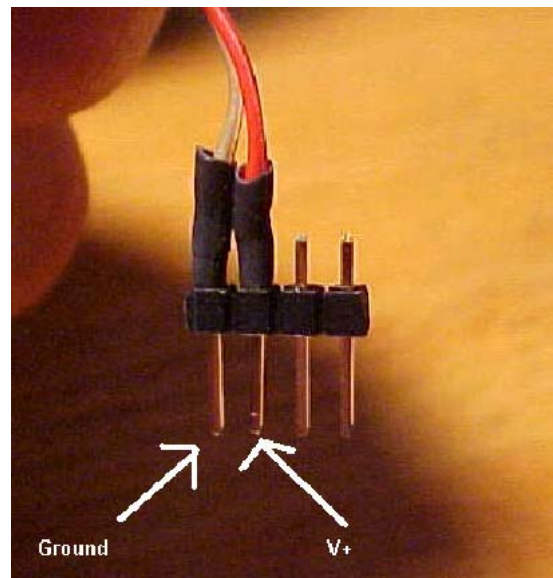
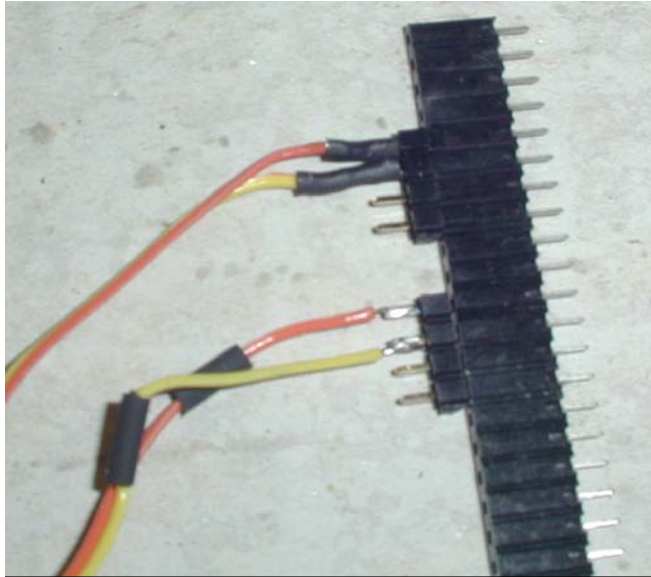
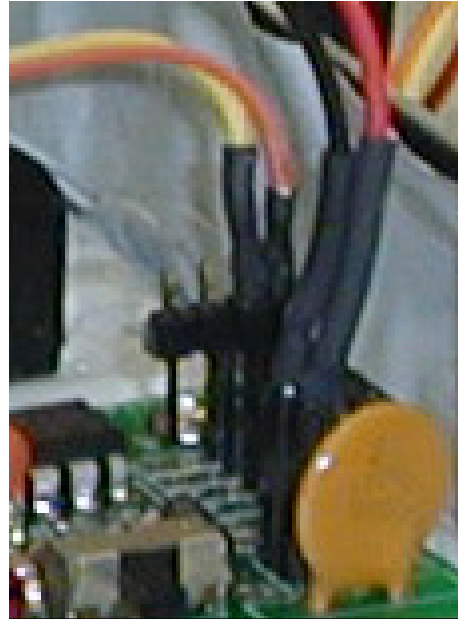

Figure 1 Power Cable Connector
Figure 2 Using Female Connector to Hold Male Connectors While Soldering
Figure 3
1. You will need to make a power cable for your robot to get power from your batteries to your protoboard. TekBots has adopted a 'keyed' connector system for power. This means that in order to work correctly you can only insert your power cables one way. This will help protect you as well as your TekBot. An example of this can be seen in Figure 1. To do this the cable is constructed from two four-position male headers on each end of a two wire cable. Only two of the pins on each connector are used. Make sure that the wires are connected to corresponding pins on both connectors. Figure 2 shows the cable. A female connector strip is used to hold the male connectors while soldering. When soldering wires to the connectors, I recommend tinning the wire and the pin first. Additional solder is usually not needed when you solder the wire to the pin. Insert one end of the cable into the female sockets on the charger board. The two unused male pins on the connector will be over the unused holes on the charger board. See Figure 3.